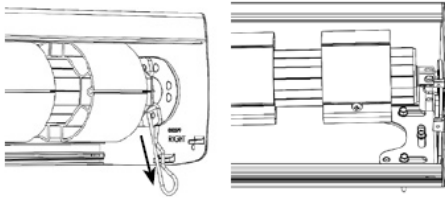

FIG R1 Idle end removal 4" tube
1. Remove the retainment pin on the idle end (fig R1 and R2)